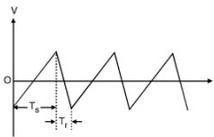

Fig. 7.14.3 : Typical sawtooth waveform
- All the qualities are possessed by a saw tooth wave or ramp voltage as shown in Fig. 7.14.3.